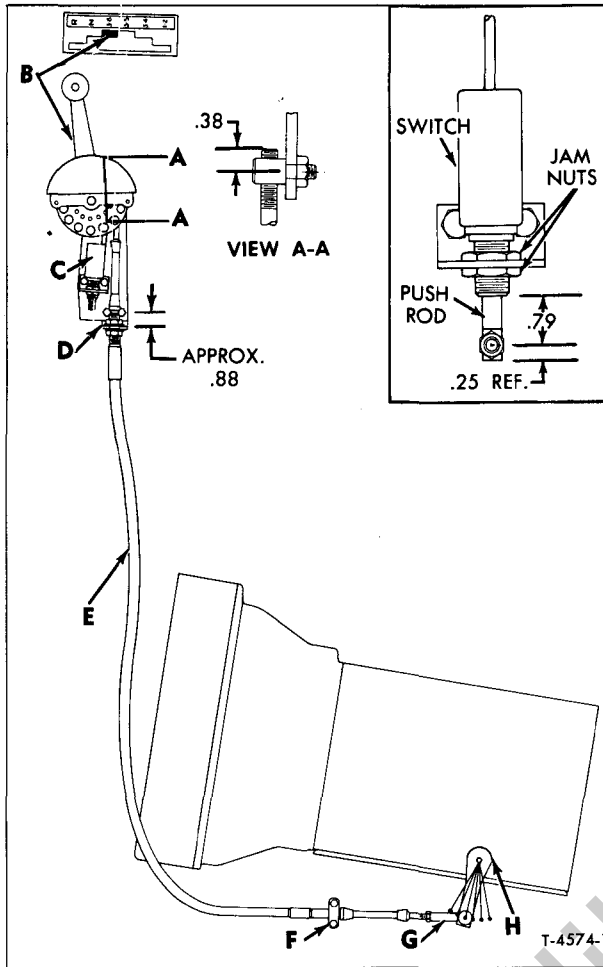

Figure 15—Manual Shift Linkage
MANUAL SELECTOR LINKAGE ADJUSTMENT (Refer to Fig. 15)
(Refer to Inset, Fig. 15)
2. Move selector lever (B) to "N" (Neutral) position, then referring to Inset, figure 15, loosen jam nuts and adjust length of push rod to dimension shown.